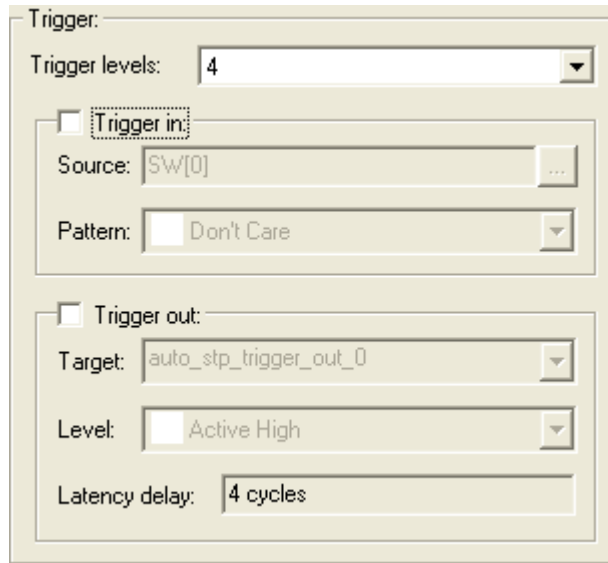

Figure 16. Set trigger levels to 4.
2. In the Signal Configuration window, select 4 from Trigger Levels menu as in Figure 16. This modifies the node list window by creating three new Trigger Levels columns.